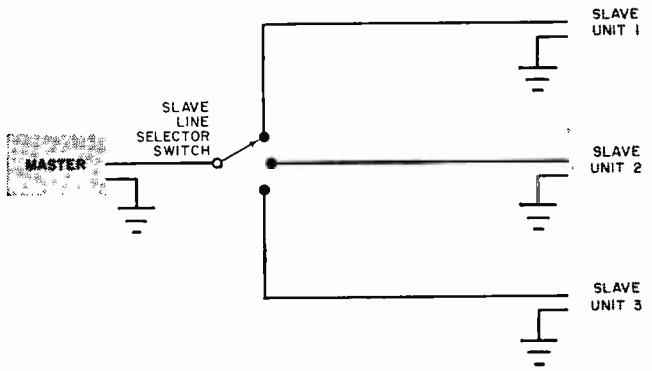

Fig. 4. Multiple-slave intercom systems require a selector switching arrangement. The ground is common to all slave units.
**MULTIPLE WIRED UNITS** It is possible to operate a number of slave units from a single master. This requires a slave selector switch as shown in Fig. 4. When the selector switch is set to Unit 1, only Unit 1 is connected; to Unit 2, only Unit 2; and so on. This permits the master unit operator to page the slave units selectively. The other slave units can neither listen in nor communicate with the master.